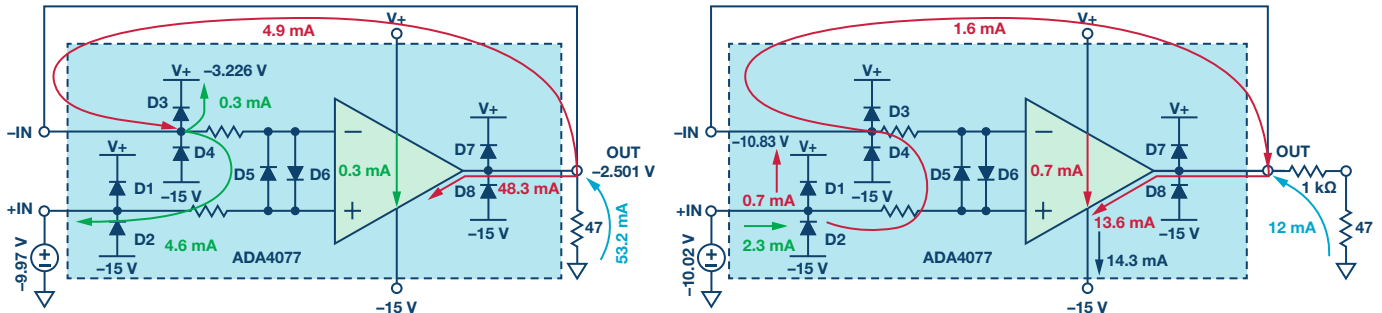

Figure 8. ADA4077 current path when V_+ is absent (−10 V Input and 47 Ω output load).
- ▶ Situation 3: When input is negative (−10 V) and the load of OUT is 47 Ω (refer to Figure 8), there is a 48 mA current that flows through the chip. This will generate a $48 \text{ mA} \times (-2.5 \text{ V} + 15 \text{ V}) = 0.6 \text{ W}$ power dissipation. Considering the ADA4077-2's 158° C/W θ_{JA} , the junction temperature is 94.8° higher than the ambient temperature. If there are two channels or there is a heavier load, the junction temperature may be higher than 150°, and the chip may be damaged.